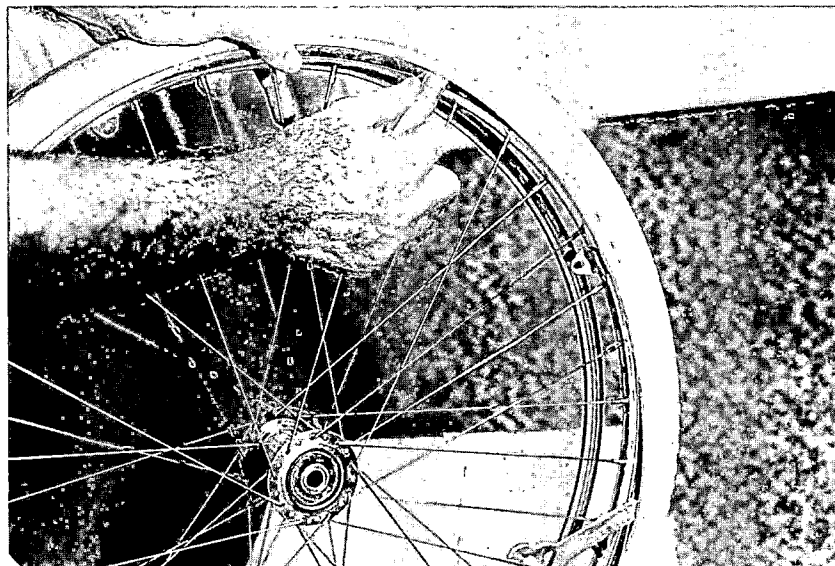

Figure 3B. Expand the opening between the tire and the rim.
7. Gently twist the second tire tool to expand the opening you are creating between the tire and the rim (see figure 3B).